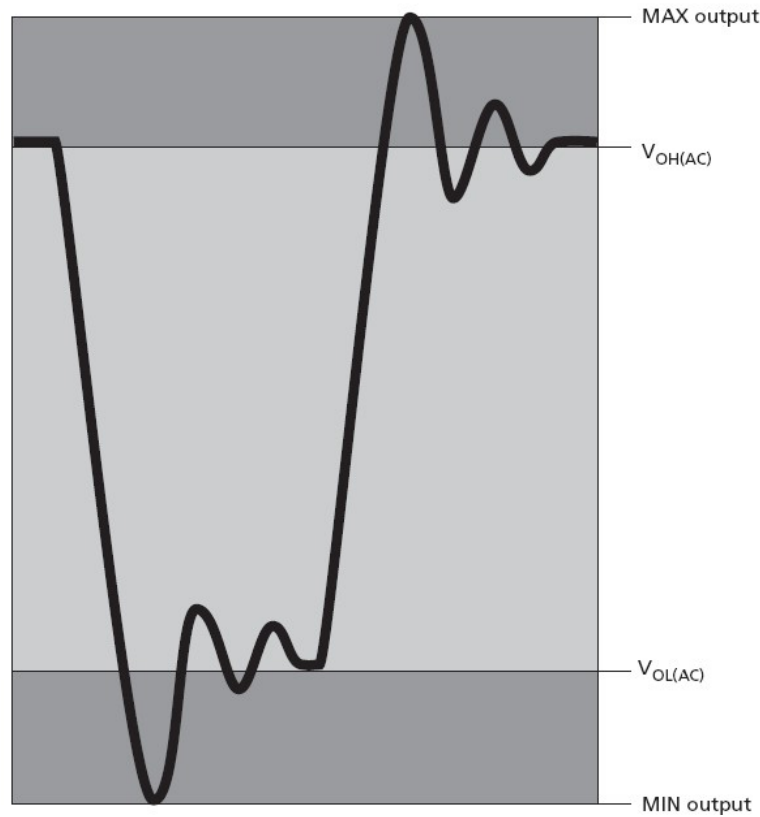

Figure 4-16: DQ Output Signal
- See Figure 4-16 for an example of a single-ended output signal.